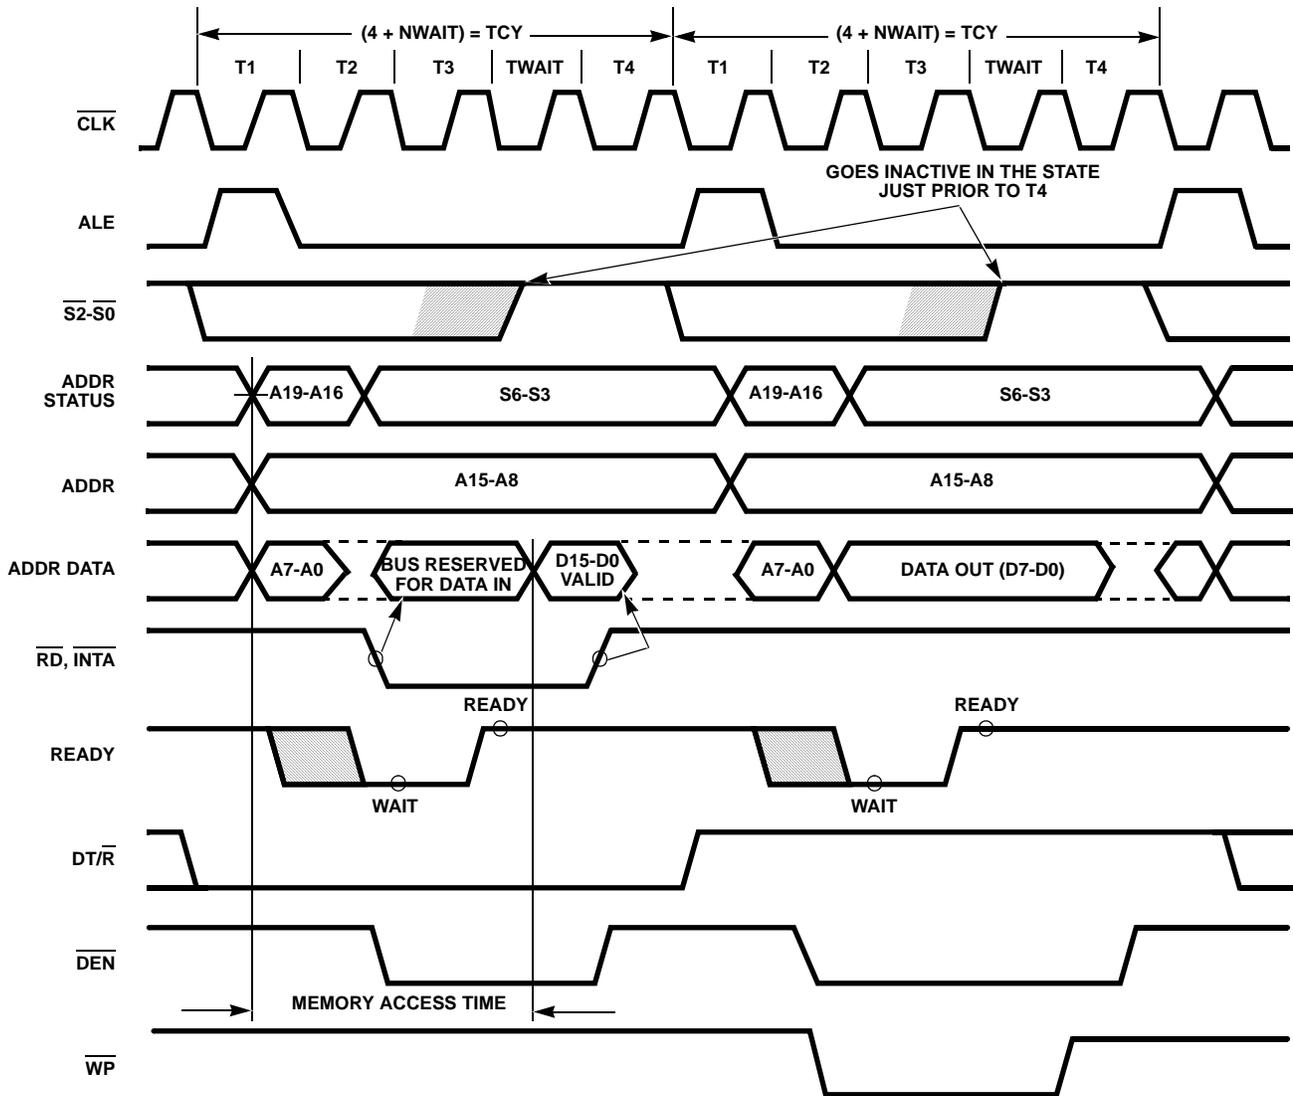

FIGURE 5. BASIC SYSTEM TIMING
Each processor bus cycle consists of at least four CLK cycles. These are referred to as T1, T2, T3 and T4. (See Figure 5). The address is emitted from the processor during T1 and data transfer occurs on the bus during T3 and T4. T2 is used primarily for changing the direction of the bus during read operations. In the event that a "Not Ready" indication is given by the addressed device, "wait" states (TW) are inserted between T3 and T4. Each inserted "wait" state is of the same duration as a CLK cycle. Periods can occur between 80C88/883 driven bus cycles. These are referred to as "idle" states (TI), or inactive CLK cycles. The processor uses these cycles for internal housekeeping.
The read cycle begins in T1 with the assertion of the address latch enable (ALE) signal (see Figure 5). The trailing (low going) edge of this signal is used to latch the address information, which is valid on the address data bus (AD0-AD7) at this time, into the 82C82/82C83 latch. Address lines A8 through A15 do not need to be latched because they remain valid throughout the bus cycle. From T1 to T4 the IO/M signal indicates a memory or I/O operation. At T2 the address is removed from the address data bus and the bus is held at the last valid logic state by internal bus-hold devices. The read control signal is also asserted at T2. The read (RD) signal causes the addressed device to enable its data bus drivers to the local bus. Some